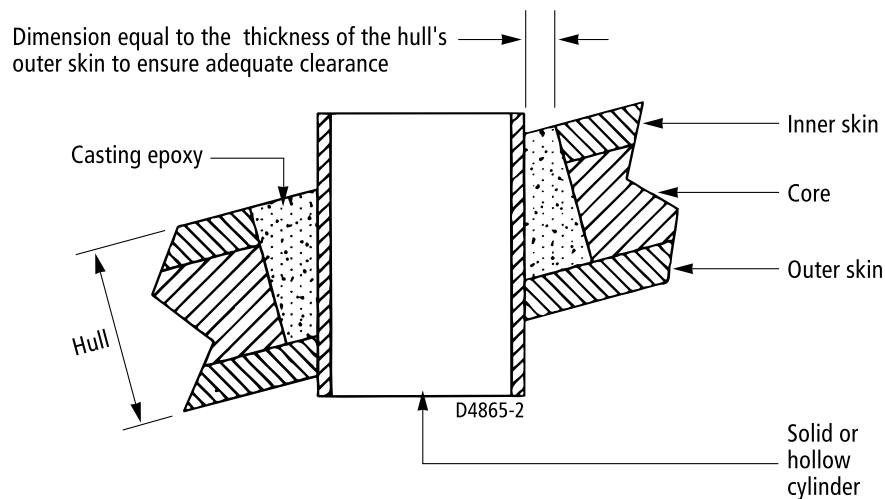

Figure 2-17: Preparing a Cored Fiberglass Hull
5. Coat a hollow or solid cylinder of the correct diameter with wax and tape it in place. Fill the gap between the cylinder and hull with casting epoxy. After the epoxy has set, remove the cylinder (see Figure 2-17).